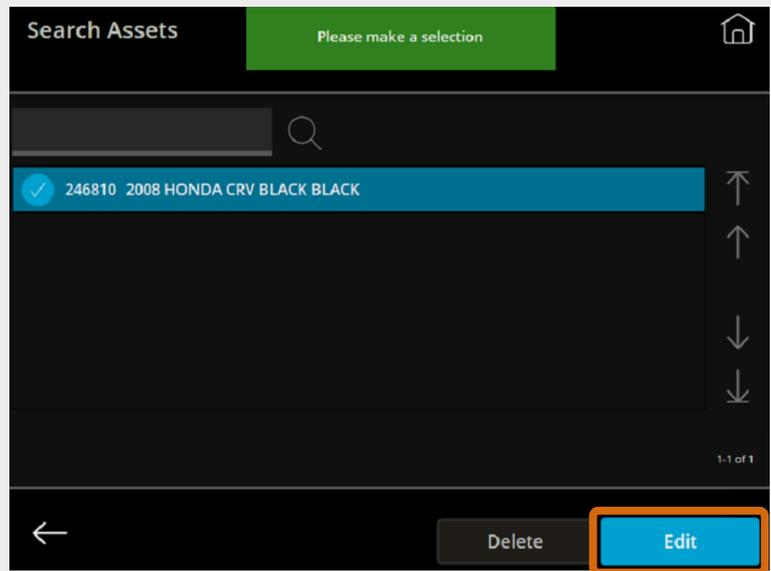

Fig. 25 – Search Assets screen with the Edit button indicated
7. Press **Edit**, as shown in Fig. 25.